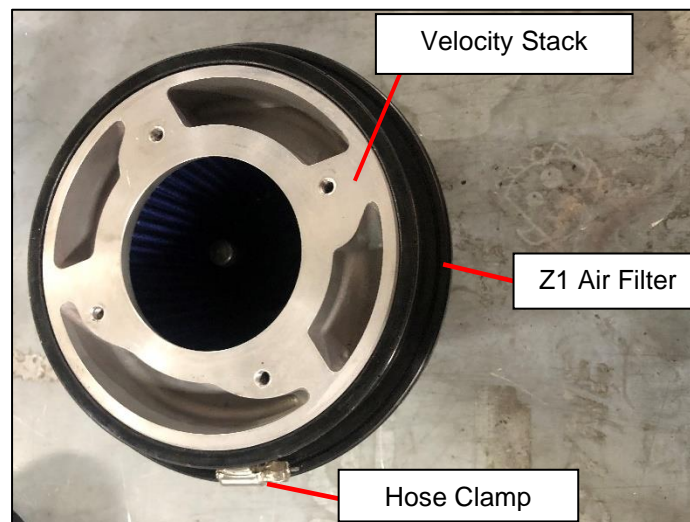

Figure 4
12. Remove the (4) four 10mm bolts connecting the MAF Housing to the Air Box and remove the MAF Housing.
13. Locate the Z1 Air Filter, Velocity Stack, (1) one Large Hose Clamp, (4) four 10mm bolts and (4) four Locking Washers. Insert the Velocity Stack into the Air Filter until it is completely flush with the top of the Air Filter. Silicone Spray may be needed to help install the Velocity Stack. *Figure 4.*
14. Install the Large Hose Clamp around the Air Filter and tighten to secure it. *Figure 4.*
15. Align the holes of the Velocity Stack with the holes of the MAF Housing. Install and tighten the supplied (4) four 10mm bolts and lock washers through the MAF Housing and Velocity Stack holes.